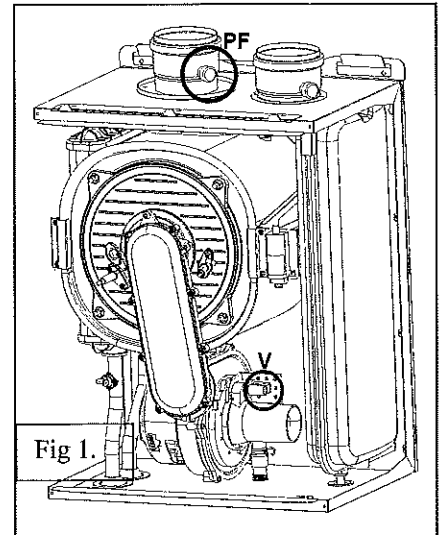

Fig 1.
- Unscrew the plug and insert an analyser in the exhaust sampling point **PF**, SEE Fig. 1, (air intake manifold is missing in the drawing to provide a clear view of the V screw) to check the CO2 value. Make sure that the value complies with that reported in table 1 while the appliance is in "Flue Test Function" mode;
- If the CO2 value does not correspond to the specified value, adjust screw **V** (see fig. 1) on the venturi clockwise to reduce the CO2 value or counter-clockwise to increase it;